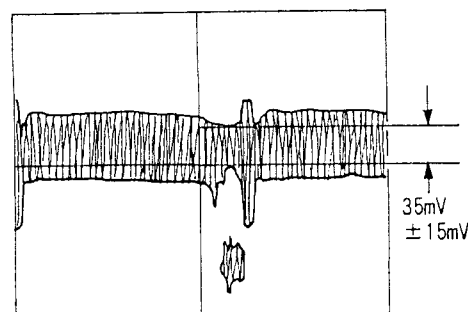

Fig. 4-5
7) Luminance Setup Adjustment (Figs. 4-5, 4-52)